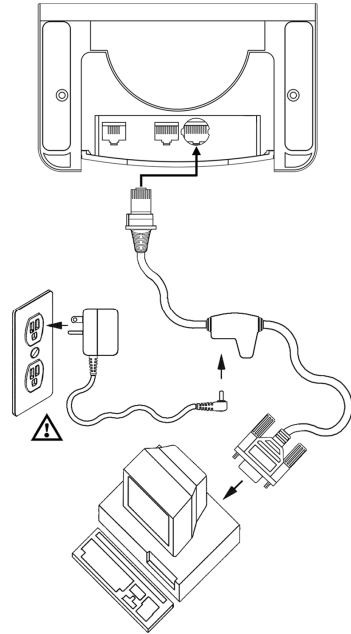

Figure 7. RS232 Interface
2. Connect the keyed VLink cable to the 10-pin Multi-Interface jack. It is the only circular keyed jack located on the bottom of the MS7820 (see figure 7).